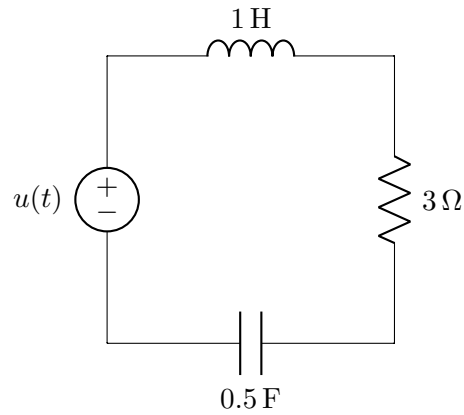

Figure 4: Electrical Circuit
**Problem 5** Consider the electrical circuit shown in Figure 4: